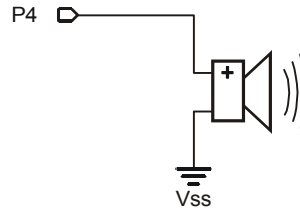

Figure 2-6
Whether it's a keypad on an alarm system, microwave oven, or a Boe-Bot, a speaker really helps let you know that the device understood when you pressed that digit key. The speaker shown in Figure 2-6 was already added to your Boe-Bot in Chapter 1, Activity #4. Up until now, it was only used to let you know that the program started (or spontaneously restarted due to low batteries).
- ✓ If you have not already done so, add the speaker circuit shown in Figure 2-6 to your Boe-Bot's prototyping area.